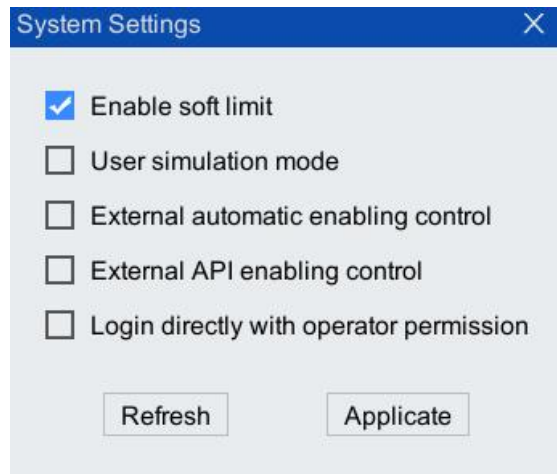

Figure 8-16 "System Settings" dialog box
Step1. On the main interface of the teach pendant, click "System > System Configuration > "System Settings" to enter the "System Settings" interface as shown in Figure 8-16. Please refer to the table for the description of each interface Table 8-2